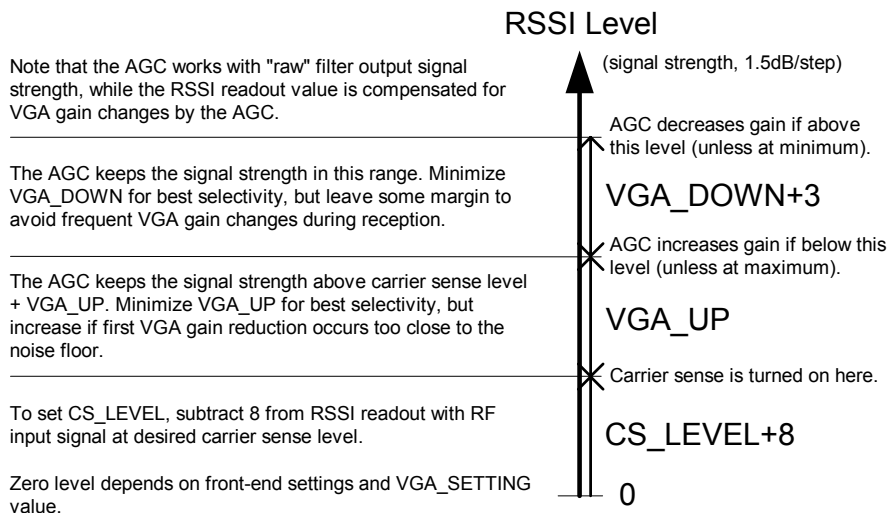

Figure 18. Relationship between RSSI, carrier sense level, and AGC settings CS_LEVEL, VGA_UP and VGA_DOWN
A digital RSSI is used to measure the signal strength after the ADC. The `CS_LEVEL[4:0]` in the `VGA4` register is used to set the nominal operating point of the gain control (and also the carrier sense level). Further explanation can be found in Figure 18.
5. If desired, adjust the VGA_UP and VGA_DOWN settings according to the explanation in Figure 18.
CS_LEVEL[4:0] must be changed accordingly to maintain the same absolute carrier sense threshold. See Figure 18 for an explanation of the relationship between RSSI, AGC and carrier sense settings.